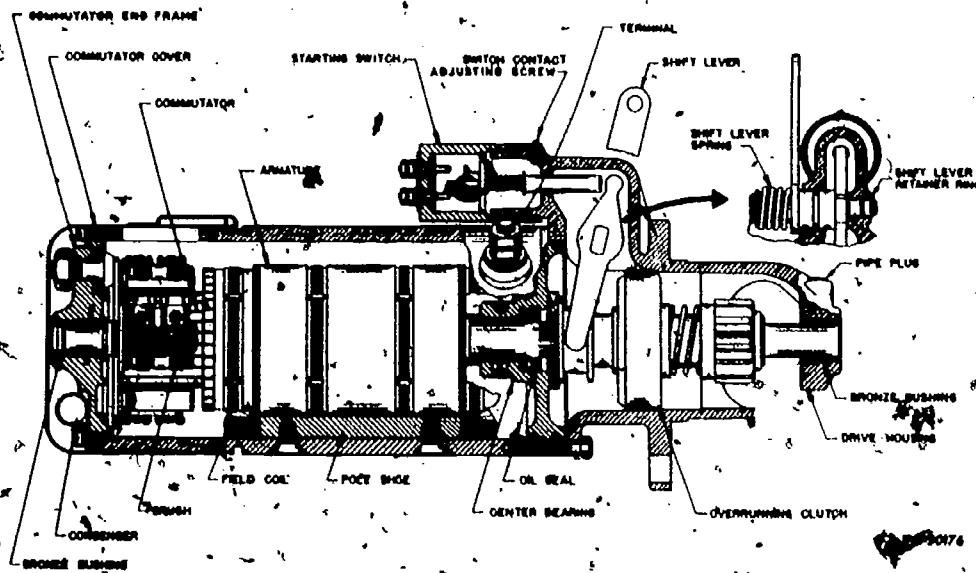

Fig 2-21. Starting motor and switch.
2. **Starting switch.** Figure 2-21 illustrates a starting switch which is manually activated by the operator through a starting lever. Depressing the lever moves the drive mechanism forward and causes the drive gear to engage the teeth on the flywheel before the starting switch allows electric current to activate the cranking motor.
4. **Starting motor (fig 2-21).** The starting motor is just the opposite of the generator which converts mechanical energy to electrical energy. It is a device which converts electrical energy from the battery into the mechanical energy needed to turn the engine over. As such, the starting motor is made up of a conventional motor and a drive mechanism. Different types of drive mechanisms can be used, but all must permit the starter drive gear to be disengaged from the flywheel automatically once the engine starts. The overrunning clutch in figure 2-21 is one of the most widely used disengaging mechanisms.